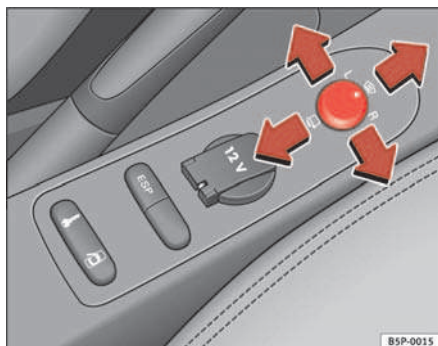

Fig. 90 Exterior mirror control
1. Turn knob ⇒ fig. 90 to position **L (left exterior mirror)**.
- Turn the knob forwards to the central position ⇒ fig. 90 ① so that the heated rear view mirrors heat up and the heated windscreen* in the wiper blade rest area is operational ⇒ page 120.
- Turn the control ⇒ fig. 90 to position to fold in the exterior mirrors. You should always fold in the exterior mirrors if you are driving through an automatic car wash. This will help prevent damage.